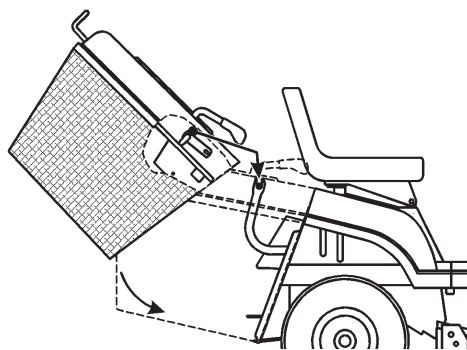

Figure 42
1. Use 2 hands to tip the grass collector forward (Fig. 42).
2. Tip the collector forward approximately 40 degrees and slide it onto the 2 support brackets at the rear of the tractor (Fig. 42).